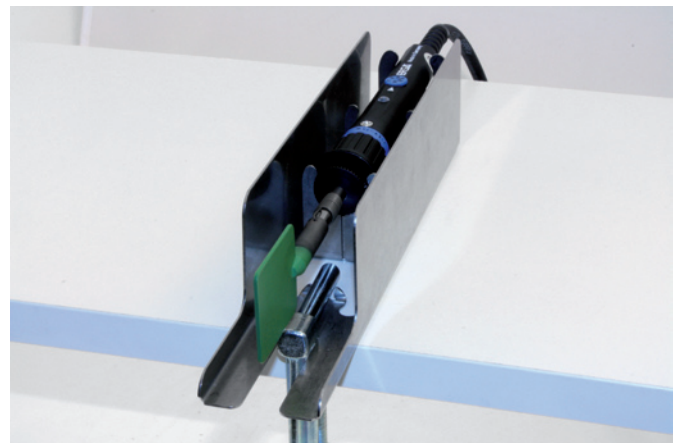

Fig. 5
- 5 For welding the soldering iron TC is pulled forward and set in the front tothing in such a way that the welding bit is vertical (Fig. 5).